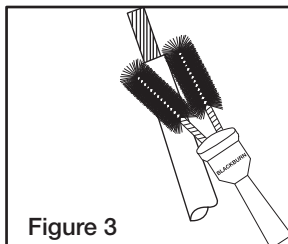

Figure 3
3. Wire brush (Reference T&B catalog number WWB1) the conductor side which will be inserted into the connector (Figure 3).